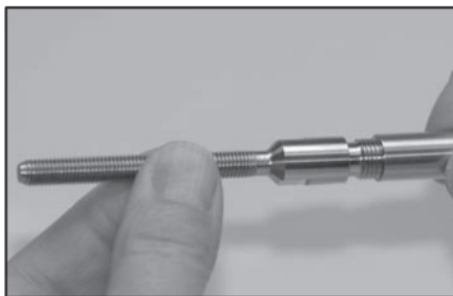

Figure 8
- Step 6 – Slide the body section to the “End Fitting” and engage the threads. See figure 8.